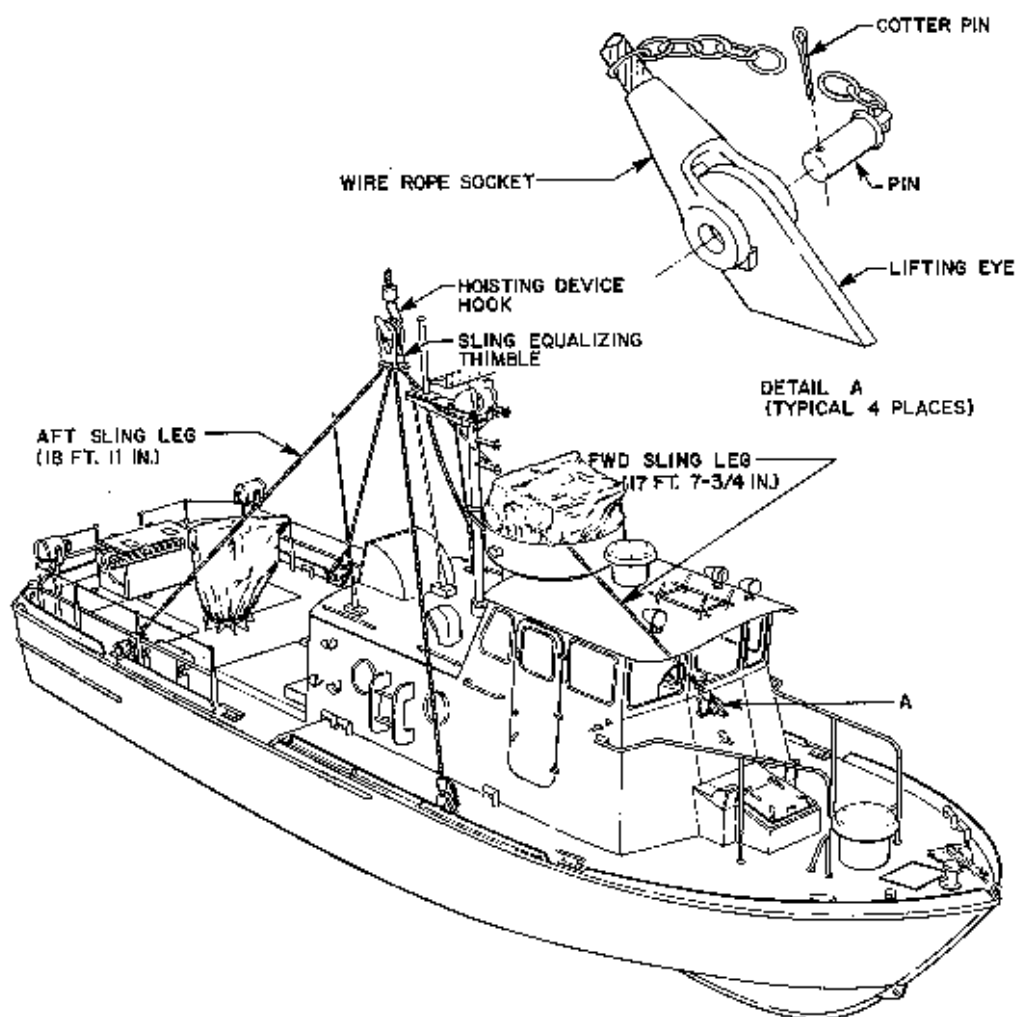

Figure 2-1. PCF Hoisting
j. Position wire rope sockets of hoisting sling on four PCF lifting eyes (Figure 2-1); secure sockets with pins.